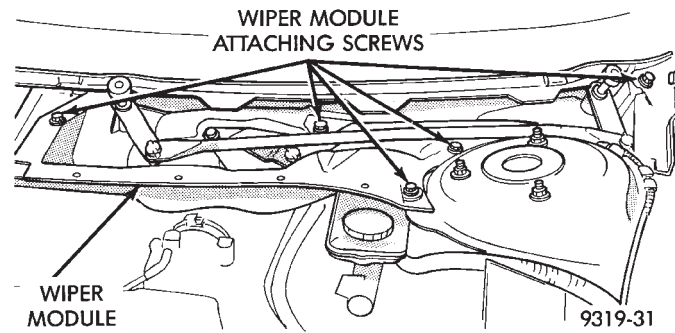

Fig. 7 Wiper Module Assembly Attaching Screws
(10) Remove the 5 screws attaching the wiper module to the cowl panel of the vehicle (Fig. 7). Then remove wiper module from cowl panel.